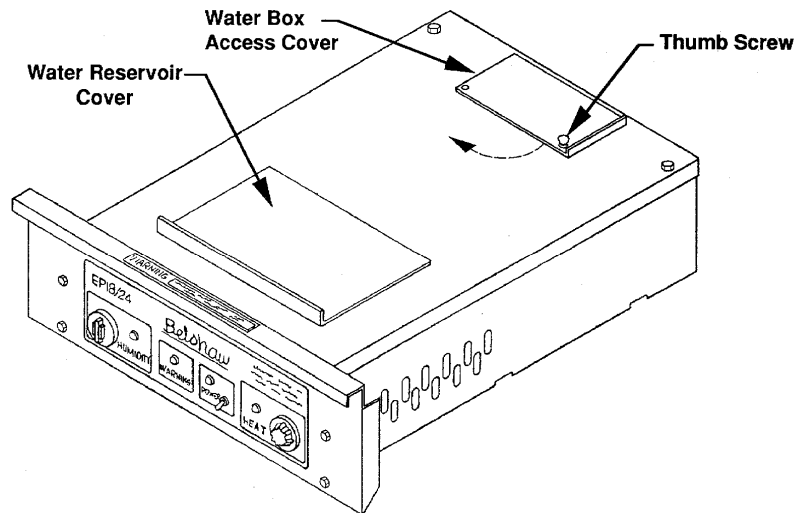

FIGURE 3
1. Lift off water reservoir cover and fill water reservoir (see Figure 3). If necessary, open lower door(s) and remove screen(s) or